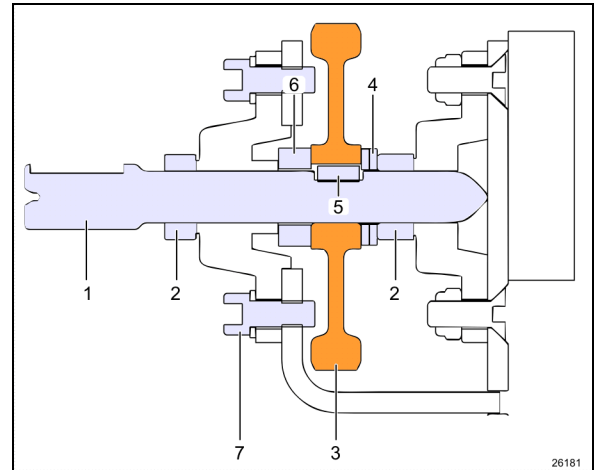

FIGURE 40: PINION ASSEMBLY SECTION VIEW.
1. Unscrew all set screws on the drive shaft yokes (item 4 in TORQUE TABLES). Slide drive shaft towards gearbox to disengage the yoke from the pinion shaft (item 1 in Figure 40).